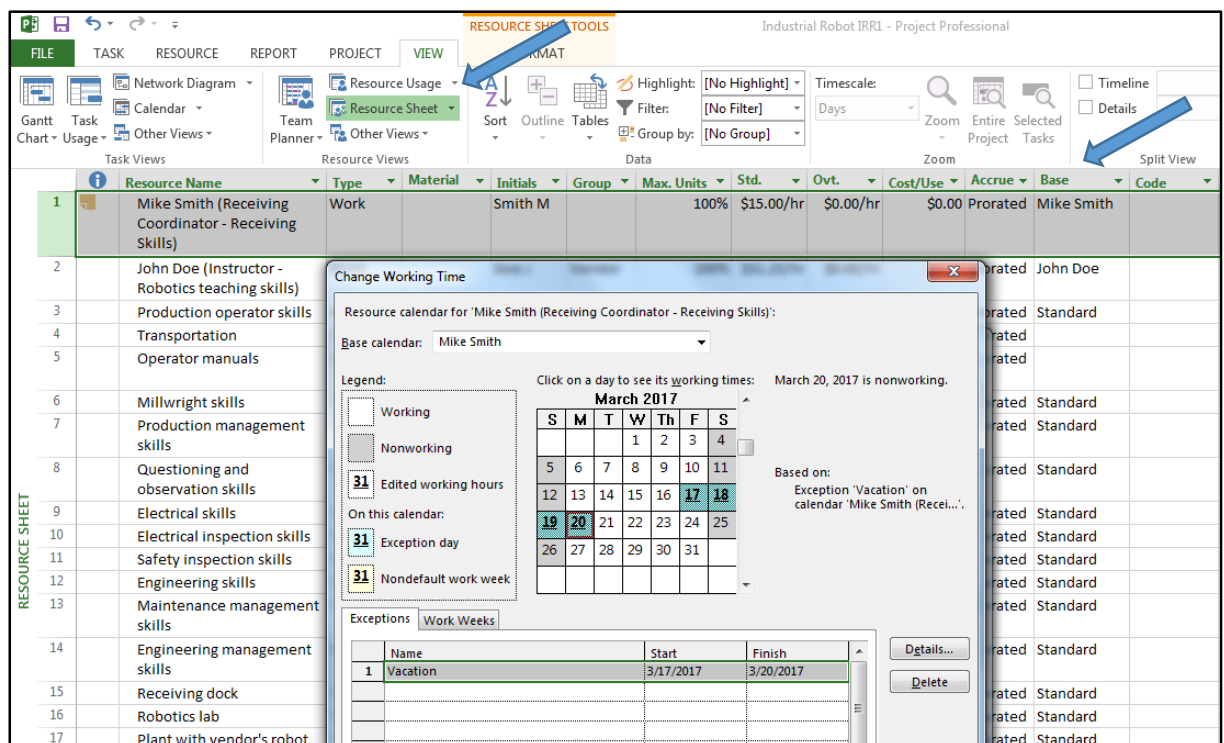

Figure 20
- If you create custom resource calendars at this time, remember to add them to the Base column in the Resource Sheet view. Use the Base drop-down and select the appropriate resource calendar (Figure 20).